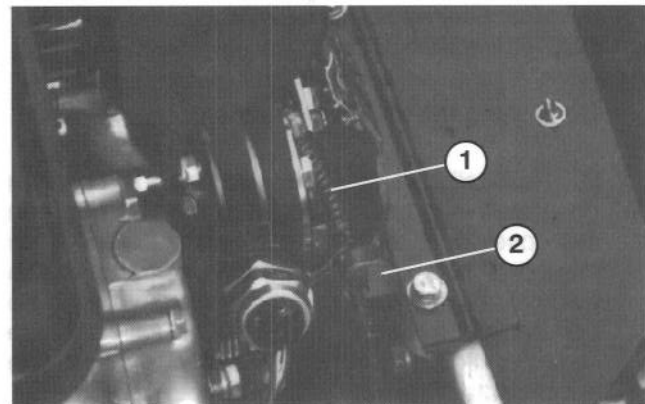

Figure 39
2. Loosen retainer securing v-belt cover and pivot cover open (Fig. 39).